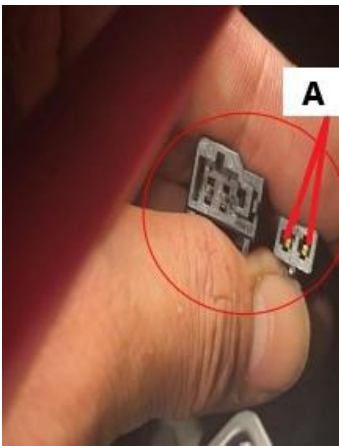

Figure 6
- 5) Referring to Figure 6 - Disconnect the E25 connection (circle)